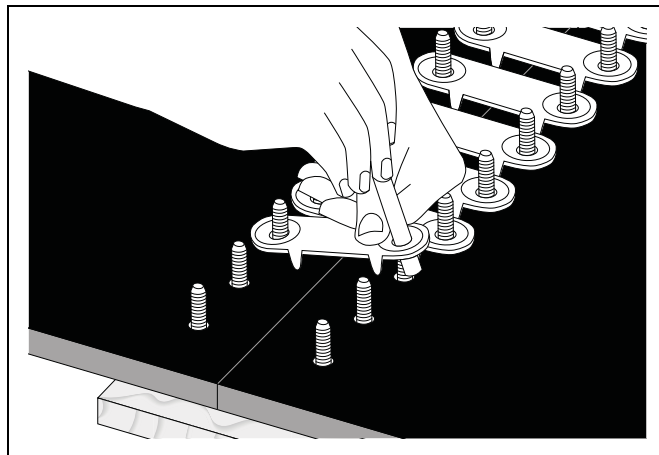

Figure 6L
6. Place top plates over bolts using bolt horn. *(See Figure 6L.)*